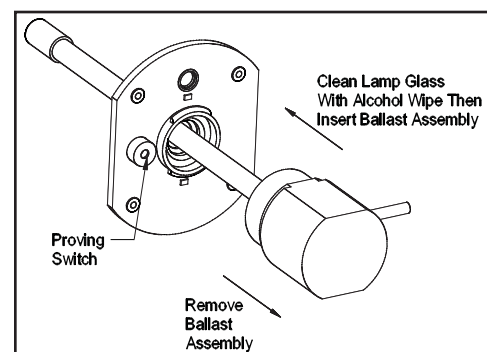

Figure 7
10. Wipe off the lamp glass with the supplied alcohol wipe. Then insert the lamp through the center hole of the mounting base. (See Figure 7) The power cord must be 90° to the viewport hole on the mounting base.
2. Remove the ballast assembly and lamp from the mounting base. (See Figure 7)
7. Slide the lamp through the hole in the mounting base. (See Figure 7)